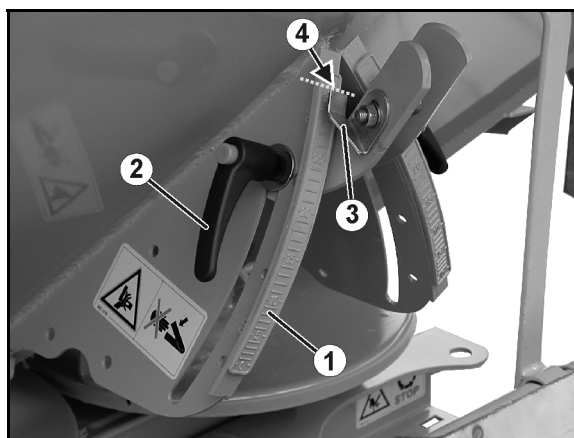

Fig. 61
2. Unscrew the clamping lever (Fig. 61/2).
3. On the scale (Fig. 61/1), locate the scale value for the slider position you have taken from the setting chart or determined using the calibration kit.
4. Set the read-off edge (Fig. 61/4) of the needle (Fig. 61/3) to the scale value.
5. Retighten the clamping lever (Fig. 61/2).